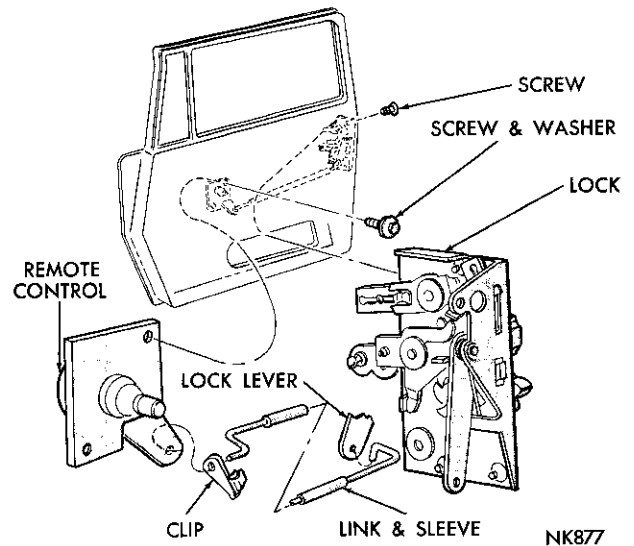

Fig. 57—Remote Control Assembly
- (1) Remove the arm rest, trim panel and watershield.
- (2) Raise the door glass.
- (3) Remove the attaching screws holding the remote control base to the door panel (Fig. 57).
- (4) Disconnect the remote control arm from the lock lever.
- (5) Remove the control through the large opening in the door.